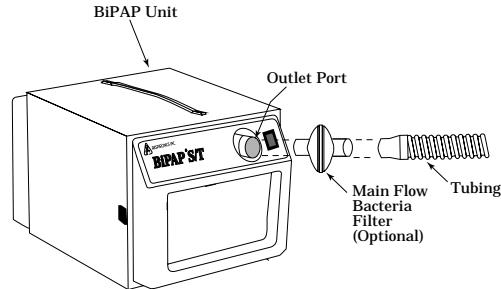

Figure 21b
- A main flow bacteria filter must be inserted between the air outlet on the unit and the circuit tubing (See Figure 21b).